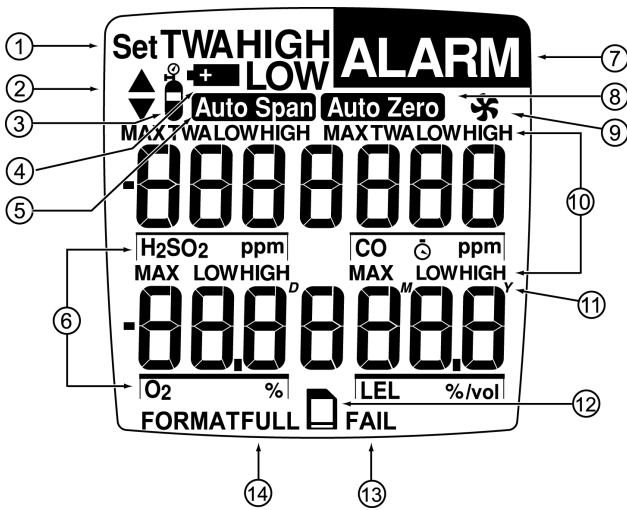

Figure 2. Display Elements
- Figure 2 and Table 4 describe the detector's display elements.